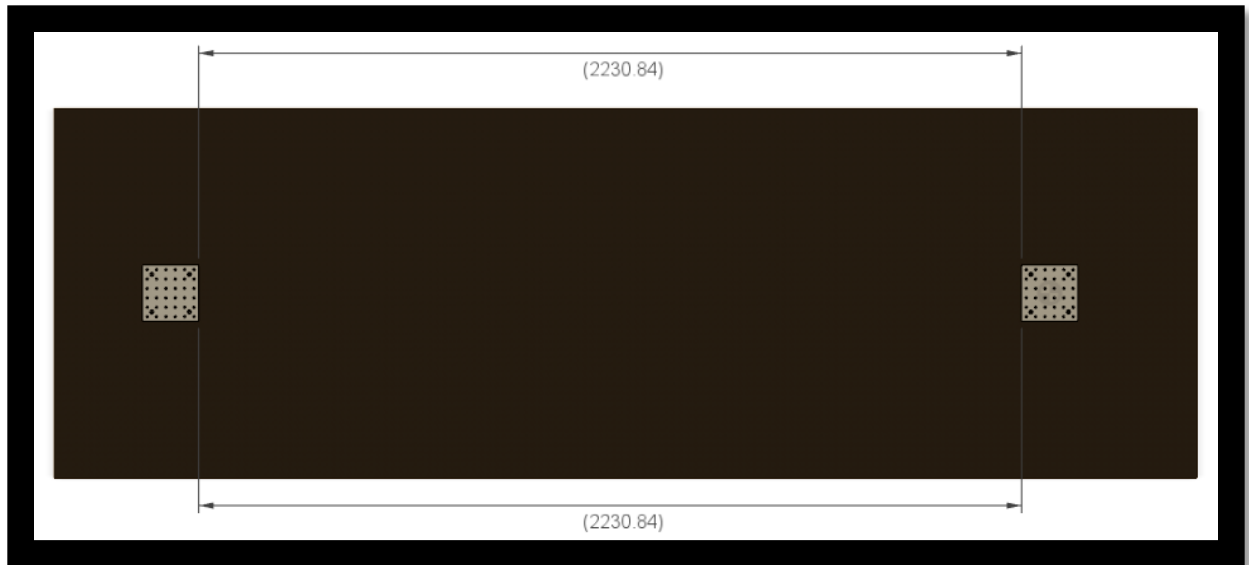

Figure 6
- 1) The optical breadboards of the target, and camera base assembly **MUST** be secured to the calibration workspace. Using the recessed holes on the bread boards it is possible to bolt down them down. As shown Figure 6, verify both corners of the breadboards at the correct location. Installation procedure: